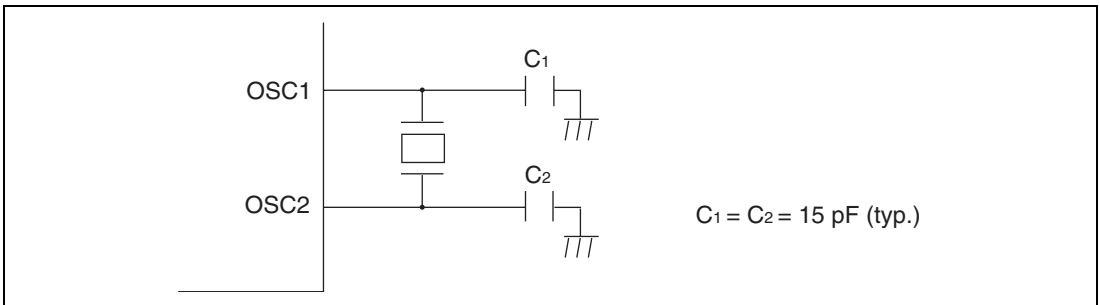

Figure 23.8 Example Connection of 32.768 kHz Crystal Oscillator
(1) Connecting 32.768 kHz Quartz Oscillator
To supply a clock to the subclock oscillator, connect a 32.768 kHz quartz oscillator, as shown in figure 23.8. See (3), Note on Board Design in section 23.3.1, Connecting a Crystal Resonator, for points to be noted when connecting a crystal oscillator.